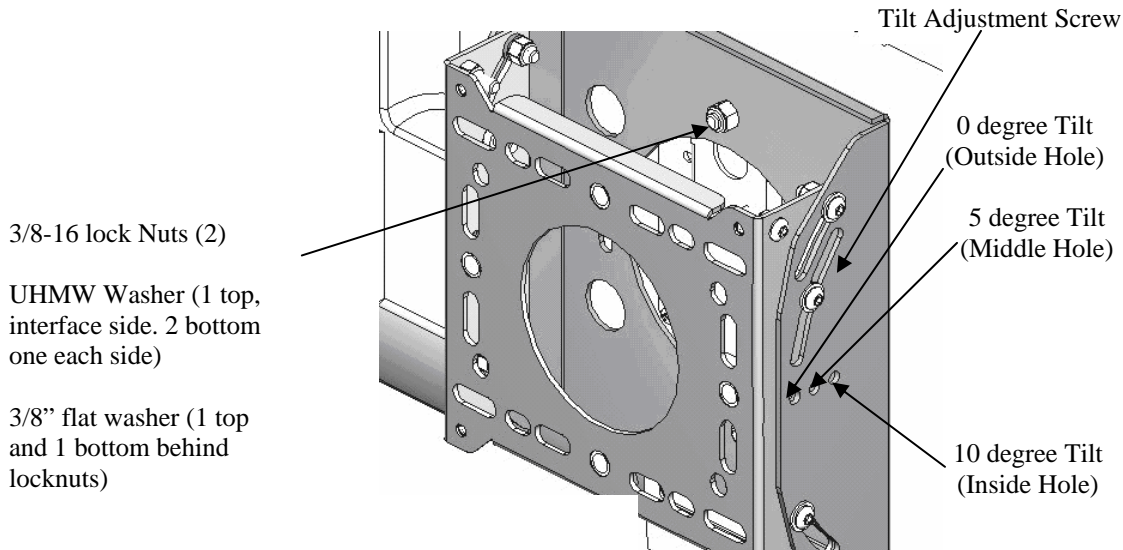

Figure 8
1. Install VESA flat panel interface adapter on pitch-adjustable mount (see Figure 8).
3. If desired, use a 1/4" bolt to secure tilt at 0 degrees, 5 degrees or 10 degrees (see Figure 8).